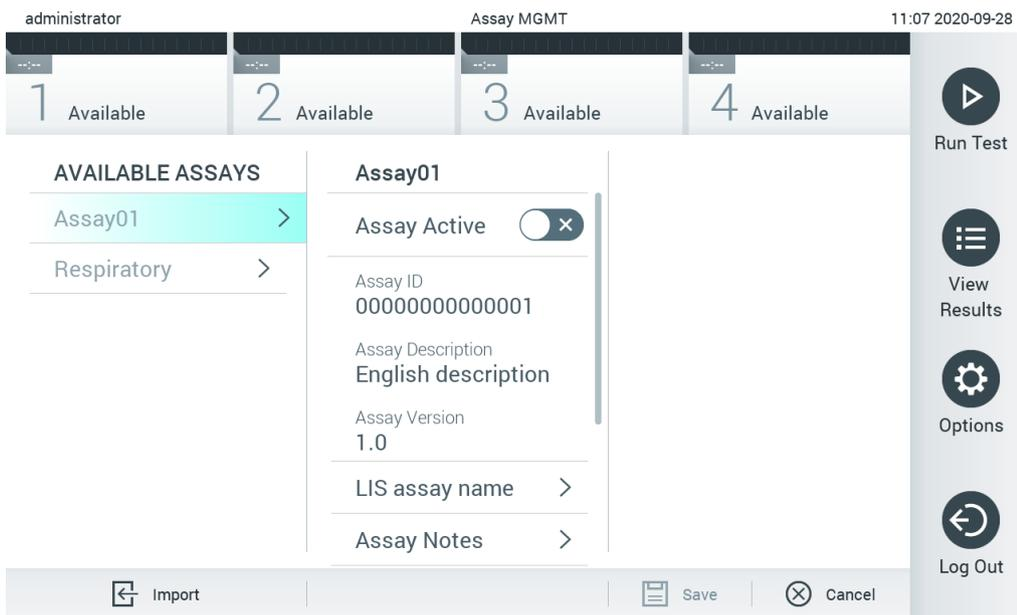

Figure 67. Assay management screen.
2. To import the new assay(s) to the QIAstat-Dx Analyzer 1.0, press the **Options** button and then the **Assay Management** button. The **Assay Management** screen appears in the content area of the display (Figure 67).